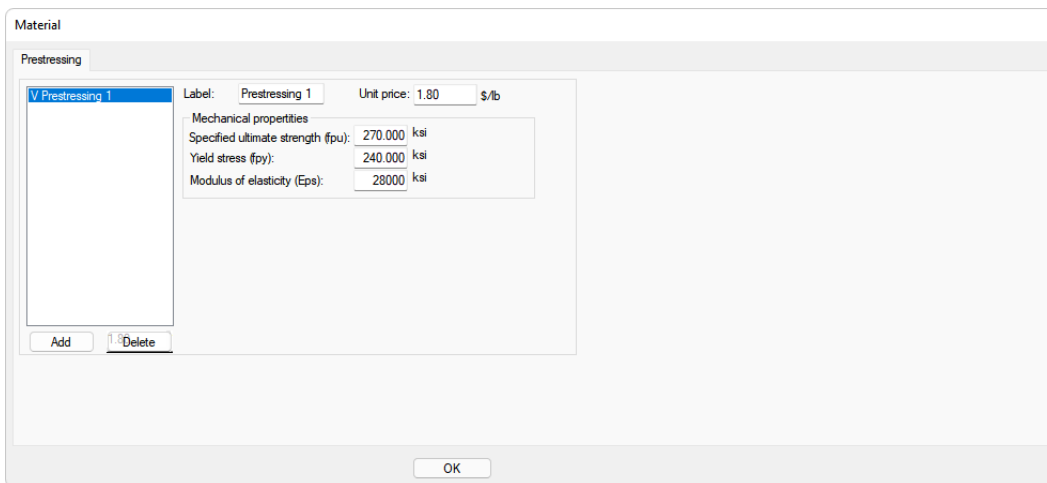

FIGURE 2-9
- Go to *Criteria->Material Properties* and click on the **Prestressing**  icon. This will open the *Material* window from **FIGURE 2-9**.